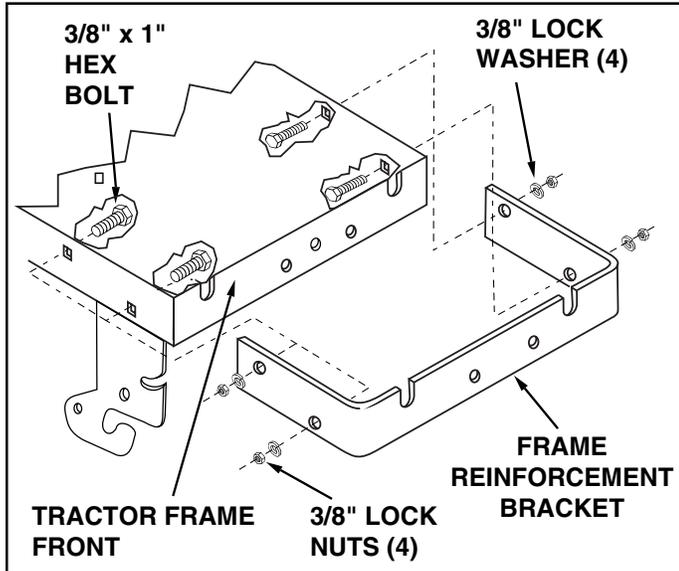

FIGURE 5 (Right hand side view)
- Attach frame reinforcement bracket to front of tractor frame using four 3/8" x 1" carriage bolts, four 3/8" lock washers and four 3/8" lock nuts. **Do not tighten.** See figure 5.